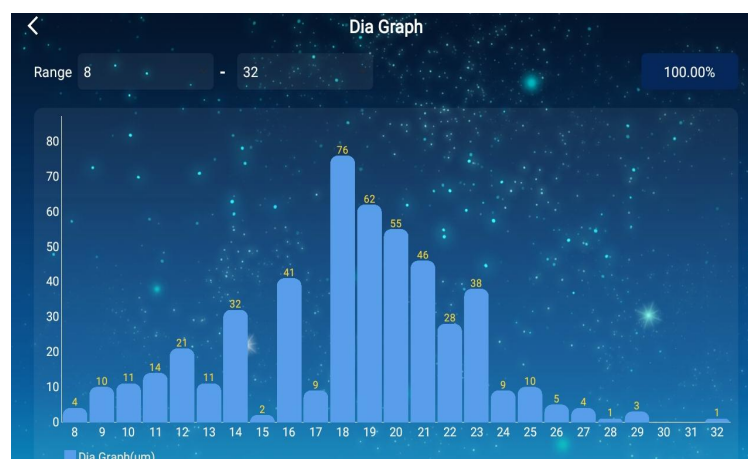

Fig. 2.21 Diameter Graph
- The **Diameter Graph:** The diameter distribution histogram of the current sample (example shown in **Fig. 2.21**) can be retrieved by clicking on corresponding icon in the result view on the right. It displays the cell size (μm) range on x axis and numbers (counts) of the specific size on y axis. By changing the size ranges at the upper left side of the graph, the user can have a detailed look on sections of the histogram, showing the proportion of cells in % within the selected size ranges on the upper right side.
If the user clicks on the "Select All" icon in the main menu of Data Management below the list of the single tests (**Fig. 2.21**), all image records of all Sample IDs within the currently selected BioApp (assay) and the pre-defined time range can be accessed. A repeated click on the "Select All" button will cause cancellation of all result items.
If the user selects on one of the circular icons in the list (**Fig. 2.21**), the green-turned circular icon indicates that this current row of data is selected. If the user clicks on the green labelled circle, he cancels his selection of the experiment results. Moreover, selecting multiple sets of data with different Sample IDs is accessible for the user.
The first page on the Data Management menu (**Fig. 2.21**) displays the first five (5) sets of data of the currently selected BioApp. To view more data sets, the user can swipe down the scroll bar at the right side in the list.